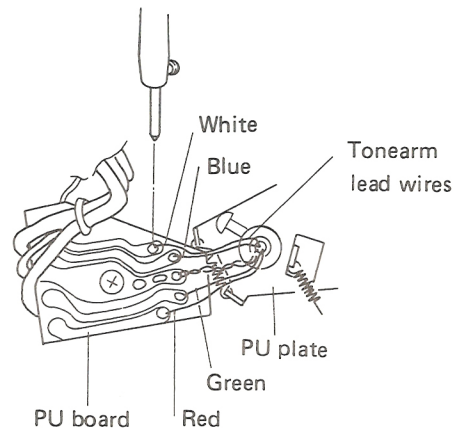

Fig. 3-2 Disconnect the tonearm lead wires
1. Disconnect the tonearm lead wires from the PU board (See Fig. 3-2).